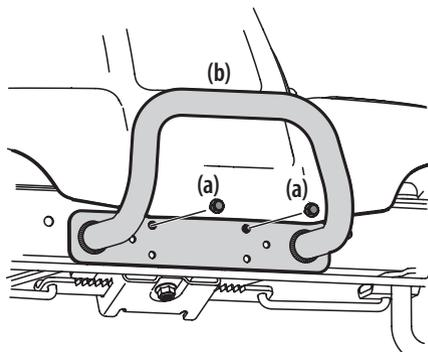

Figure 15
1. Remove the two screws (a) as shown in Figure 15.
2. Position the bumper (b) over the mounting holes and secure using the screws (a) removed in Step 1. See Figure 15.